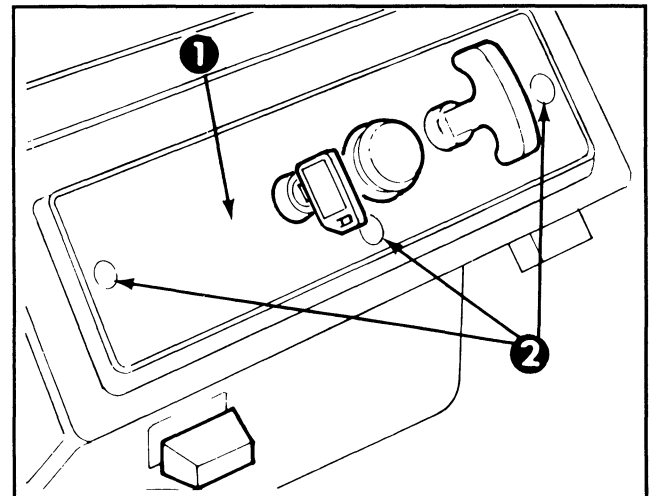

Figure 15
REPLACING SPARK PLUG (Fig. 15, 16 & 17)
1. REMOVE CONTROL PANEL (Fig. 15) — Remove (3) capscrews securing control panel to housing. Remove ignition key and lift off panel, allowing it to hang on recoil rope.